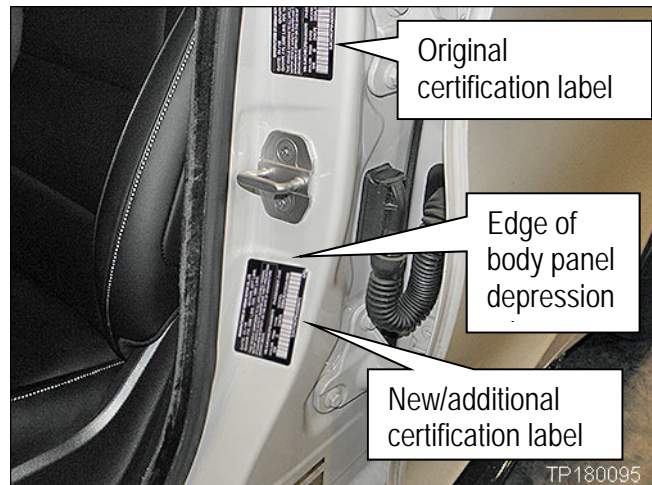

Figure 5
8. Peel the new label from the backing sheet and affix it below the body panel depression edge as shown in Figure 5.